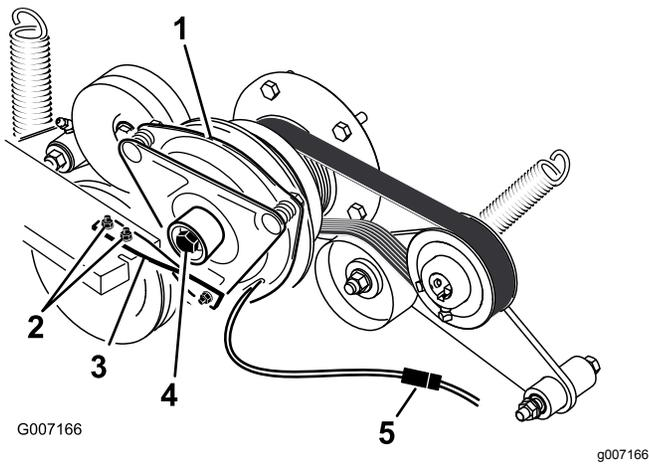

Figure 64
6. Unplug the electric connection for the clutch (Figure 64).
7. Remove the 2 bolts holding the rubber clutch strap to the mower frame (Figure 64).
8. Remove the center bolt holding the clutch to the engine shaft and remove the clutch and key (Figure 64).
15. While holding the crank shaft at the back of the machine, install the center bolt and torque it to 68 N·m (50 ft-lb) (Figure 64).
16. Install the rubber clutch strap to the mower frame with the 2 previously removed bolts and nuts (Figure 64).
18. Plug in the electric connection for the clutch (Figure 64).